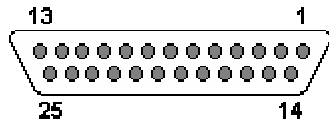

Figure 3-27: Parallel Connector Pinout Locations
- CN Pinouts:** See Figure 3-27 and Table 3-33